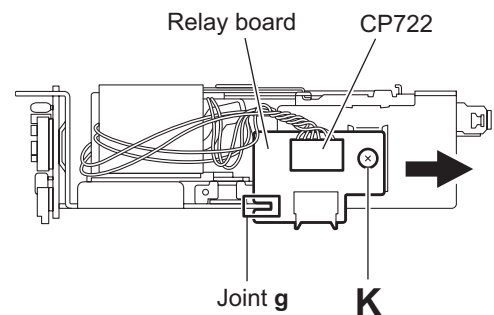

Fig.9
3.1.9 Removing the relay board (See Fig.9)
- (1) Unsolder the two wires I on the mute switch board on the back of the cassette mechanism assembly.
- (2) Remove the screw H attaching the mute switch board.
3.2.12 Removing the power switch (See Fig.9)